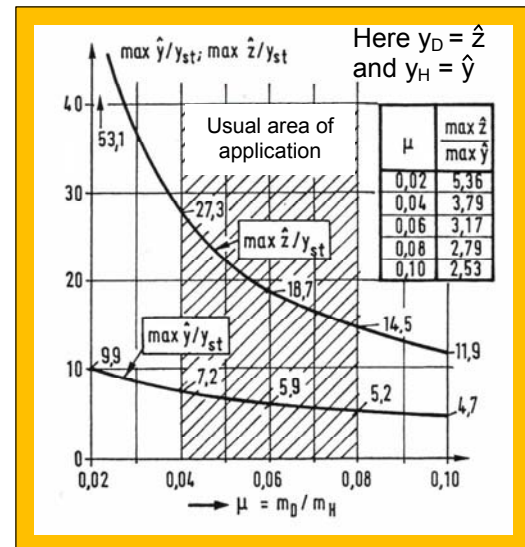

Fig. 7: Relative displacements of the TMD compared with the structure itself and usual area for mass ratios
- 2) An important criteria is an effective mass ratio value granting a wide-banded range of optimal operation (Fig. 7).